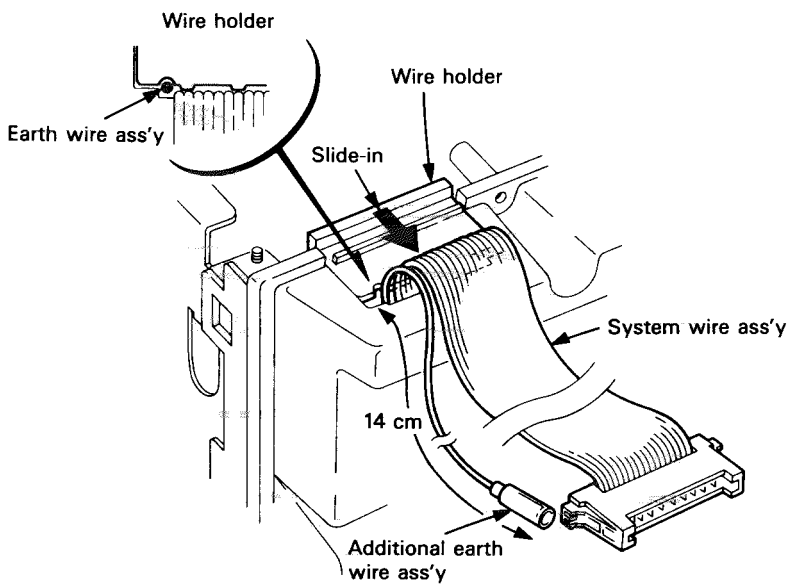

Fig. 6
- ⑦ The earth wire ass'y which has been treated in Item 6 above is drawn out of the body together with the system wire as indicated in Fig. 6 below.